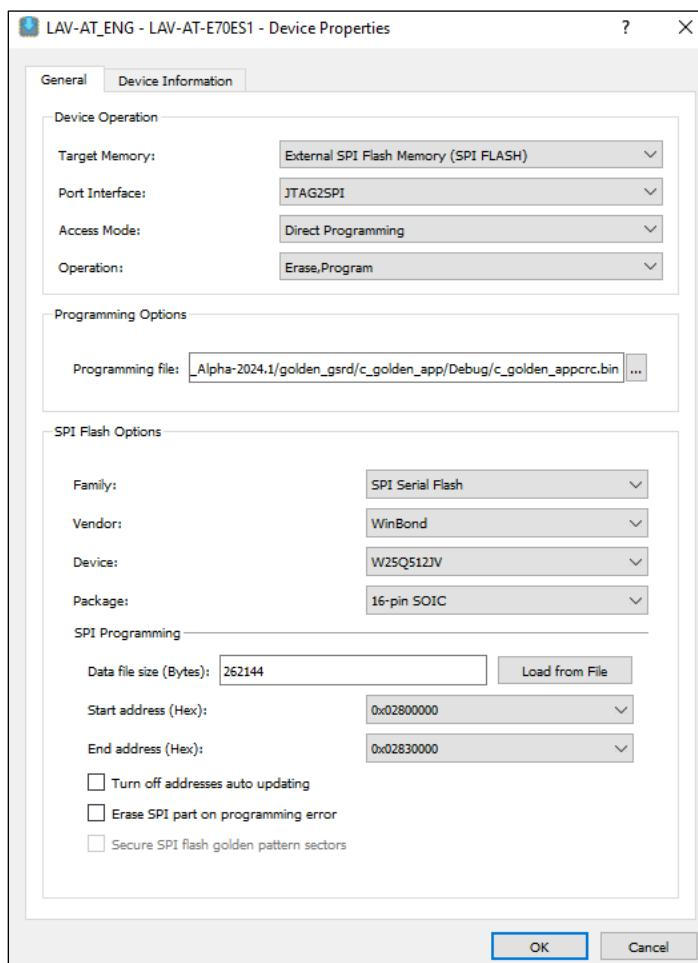

Figure 7.20. Device Properties to Program the SPI Flash
18. To program the `c_golden_appcrc.bin` file into the SPI Flash, follow the settings as shown in Figure 7.20.